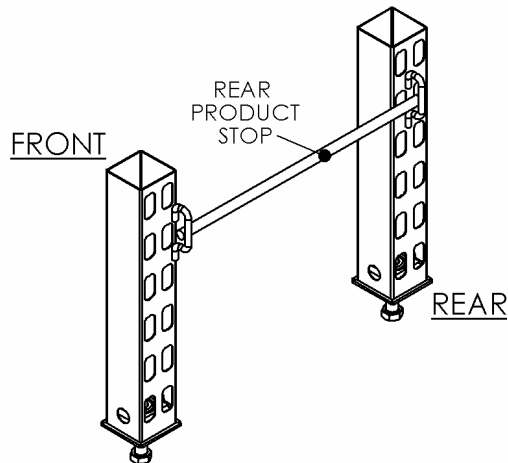

Figure 9: Rear Product Stop
- c. Install rear product stops (as required) after stocking shelves. Insert rear-product stop ends into rear post slots at desired height. Refer to Figure 9.